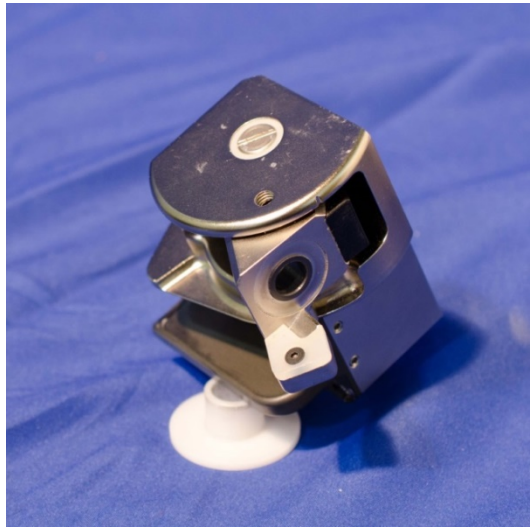

Figure 7-8. Install lower left buffer
- 7.2.2.2 Install the Lower Left Buffer (472-3817-1) using one M3 x 0.5 x 8 FHCS (Figure 7-8).